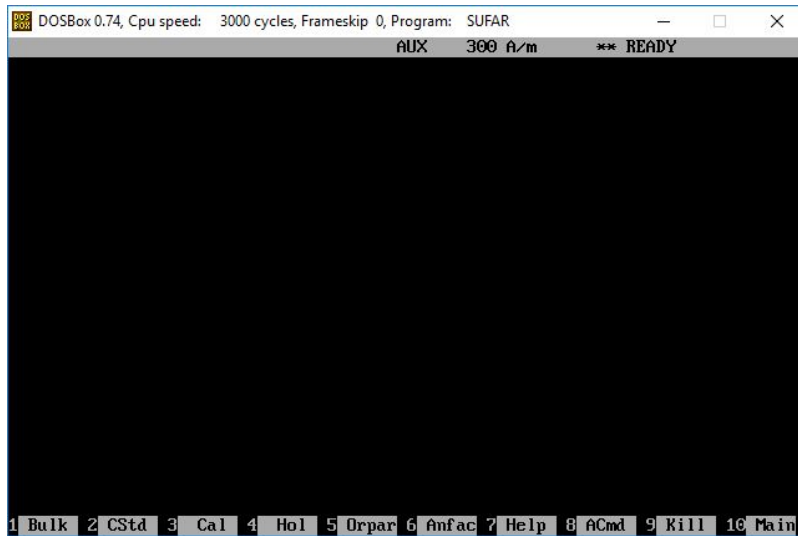

Figure 4 SuFar Auxiliary Menu window
1. Press F10 to access the auxiliary menu (Aux) in Sufar (**Figure 4**). When in the Auxiliary menu the AUX will be displayed in the grey bar at the top of the window.
1. Press F10 to access the auxiliary menu (Aux) in Sufar (**Figure 4**).